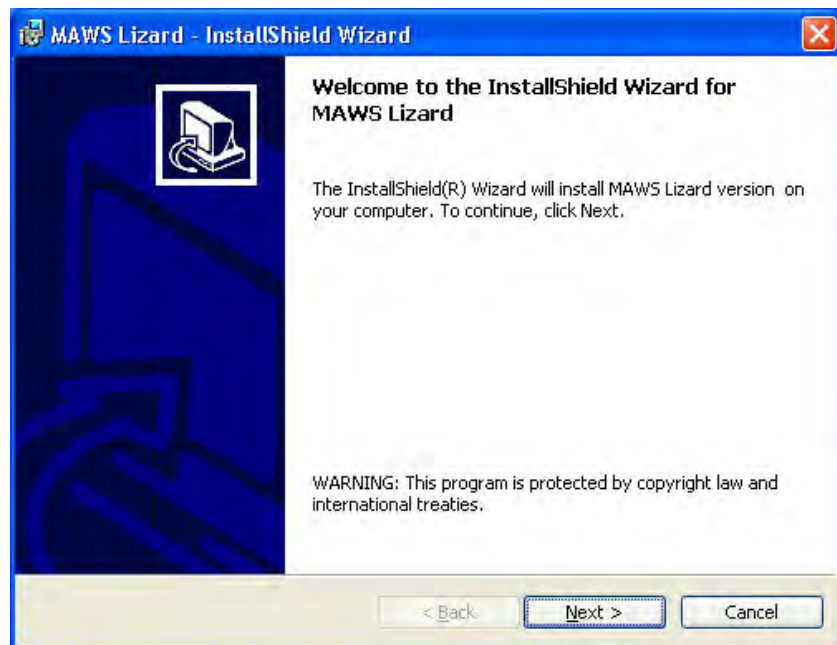

Figure 1 **Welcome Window**
2. The **Welcome** window appears; see Figure 1 on page 26. Click **Next** to proceed.